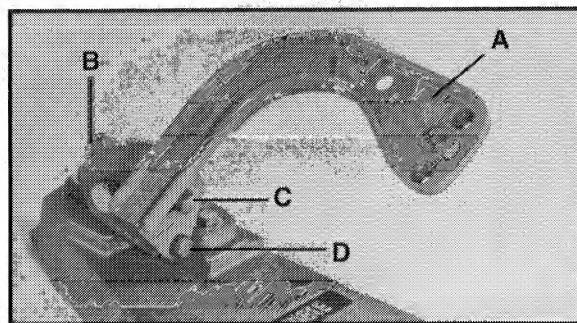

Fig. 3
3. Assemble arm (A) Fig. 3, to hinge assembly (B) using the two  $\frac{3}{8}$ "-16 x 1 $\frac{1}{2}$ " long bolts and  $\frac{3}{8}$ " I.D. x  $\frac{3}{4}$ " O.D. washers (C) and (D). Rotate arm (A) so that the top elongated slot is centered with the top bolt (C) and tighten bolts firmly.